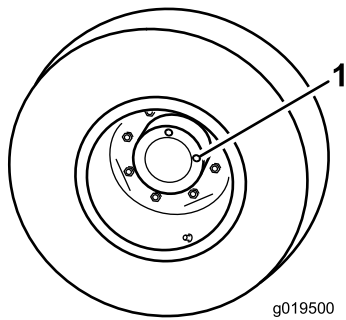

Figure 89
1. With machine on level surface, position the wheel so 1 check plug is at the 12 o'clock position and the other is at 3 o'clock position (Figure 89).
1. Check/drain plug (2)
2. Remove the plug at the 3 o'clock position (Figure 89).